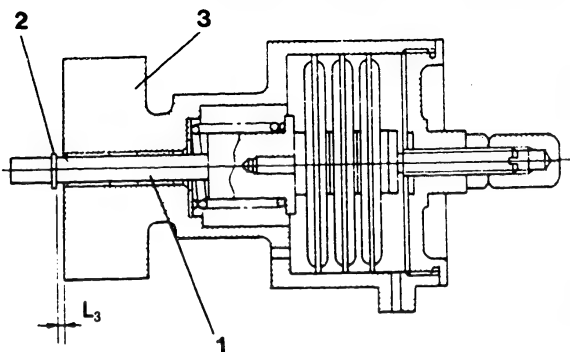

Fig. 175 Assembled dimensions of aneroid compensator
Measure the distance (dimension L_3) between the snapping assembled with pushrod (1) and the housing. (Fig. 175) If dimension L_3 is outside the specified range, adjust using the setscrew after removing the aneroid compensator capnut and loosening the locknut.